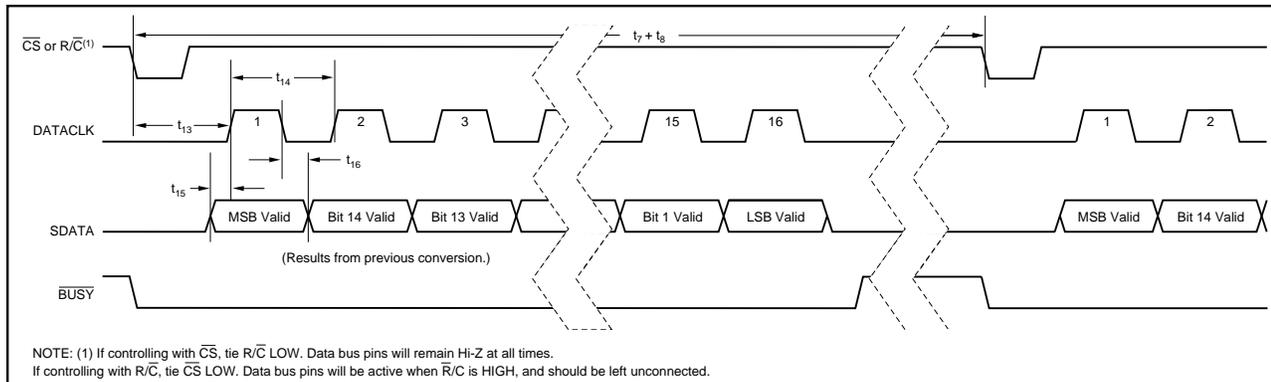

FIGURE 4. Serial Data Timing Using Internal Data Clock ( $\text{TAG}$  tied LOW).
NOTE: (1) See Figures 4, 5, and 6 for constraints on data valid from conversion "n-1".
To use the internal data clock, tie  $\text{EXT}/\overline{\text{INT}}$  (pin 8) LOW. The combination of  $R/\overline{C}$  (pin 22) and  $\overline{CS}$  (pin 23) LOW will initiate conversion 'n' and activate the internal data clock (typically 900kHz clock rate). The ADS7807 will output 16 bits of valid data, MSB first, from conversion 'n-1' on  $\text{SDATA}$  (pin 19), synchronized to 16 clock pulses output on  $\text{DATACLK}$  (pin 18). The data will be valid on both the rising and falling edges of the internal data clock. The rising edge of  $\overline{\text{BUSY}}$  (pin 24) can be used to latch the data. After the 16th clock pulse,  $\text{DATACLK}$  will remain LOW until the next conversion is initiated, while  $\text{SDATA}$  will go to whatever logic level was input on  $\text{TAG}$  (pin 20) during the first clock pulse. Refer to Table VI and Figure 4.